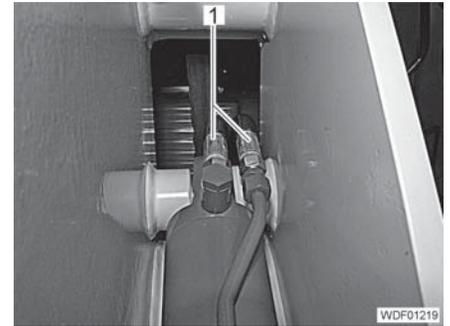

Fig. 194 Hydraulic lines
- Detach and close off the hydraulic lines (Fig. 194,1).
- Screw the hydraulic lines (Fig. 194,1) onto the connections on the lifting cylinder and tighten.